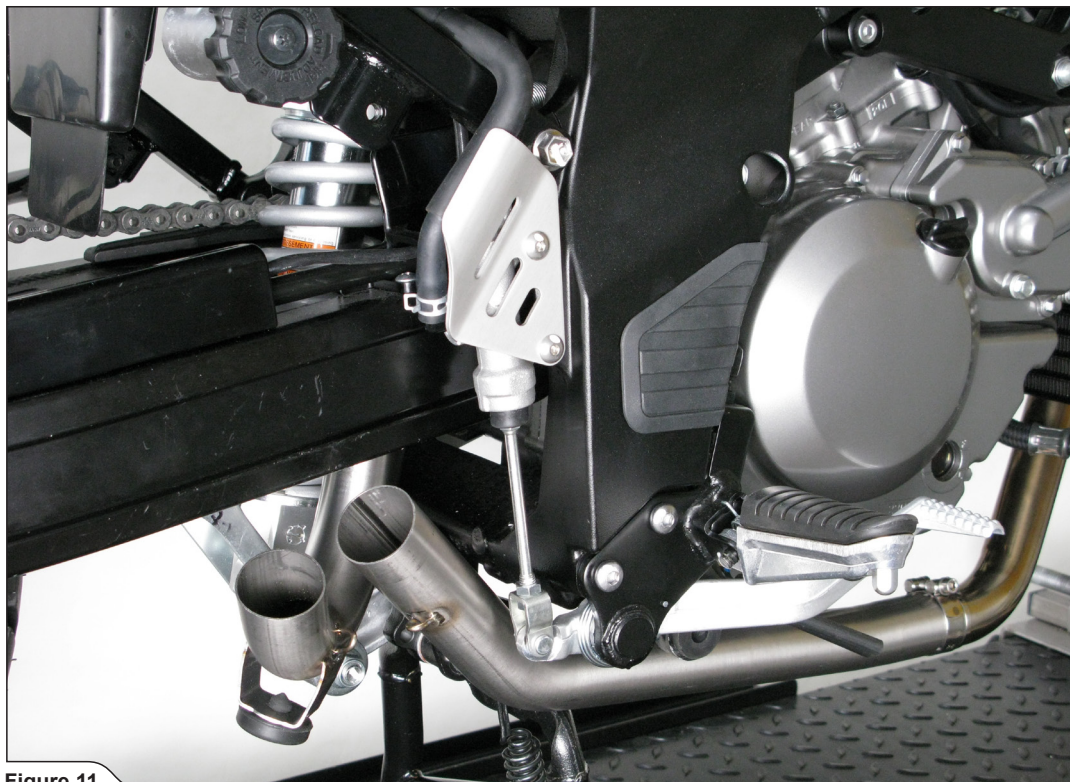

Figure 11
3. Slide the Akrapovič front pipes onto the front and rear stock headers, as show (Figure 11).